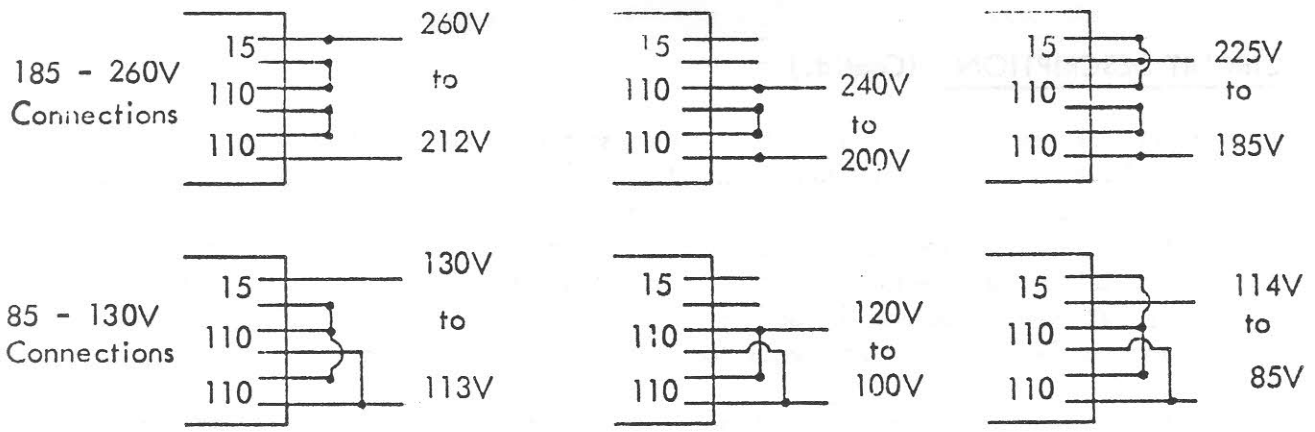

Figure 2. Transformer Connections
5.11 The AC input to the supply is taken via S1A and S1B and a 5A Delay fuse to the two transformers T1 and T2 whose primary windings are connected in parallel across the supply. Interconnection of the voltage tapplings on the primary windings give a wide range of input voltages, see Figure 2.